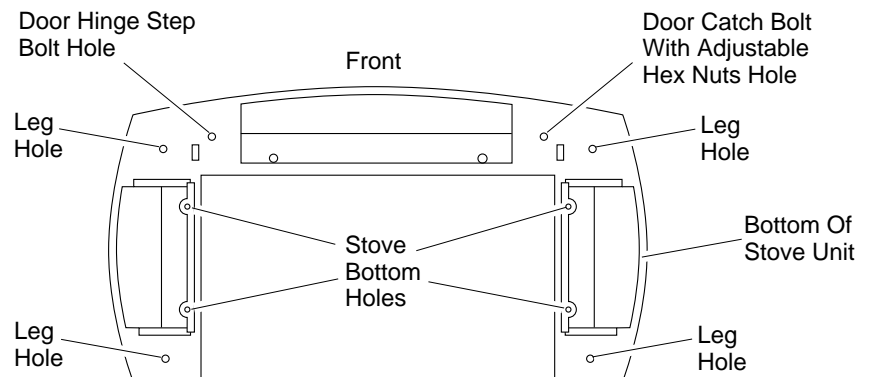
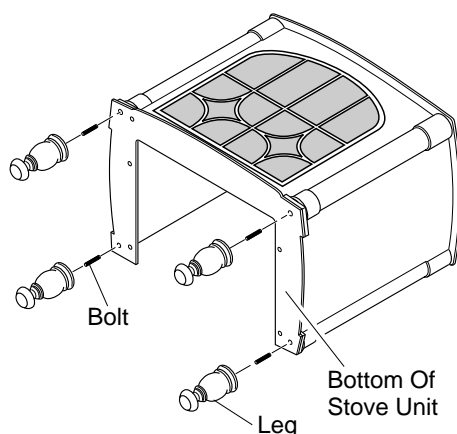

Figure 8 - Locating Threaded Holes for Stove Bottom, Legs, and Door Attachment (Appearance May Vary Depending on Model)
Figure 9 - Attaching Stove Legs
- Fasten each leg to stove with four (4) bolts. Use a flat screw driver to tighten bolt to leg. Thread bolt in tapped holes on stove body (see Figure 8 and Figure 9, page 9).
9. Fasten stove bottom to stove with four (4) M6 x 1 - 25mm bolts. Use a flat washer and lock washer with each bolt. Tighten bolts into threaded holes on stove body (see Figure 8, page 8 and 10). Use an adjustable wrench or a 10mm socket.
11. Install door catch bolt (M8 x 1.25-55mm with two M8 hex nuts) into threaded hole on stove body (see Figure 8, page 8). Use an adjustable wrench or a 12mm socket. The catch bolt has two hex nuts attached to it (see Figure 12). The top nut is a bolt stop and the bottom nut is for door leveling adjustment.
15. Fasten back panel to stove with six (6) M6 x 1 - 20mm bolts and washers. Make sure product identification label is located on the outside in lower left-hand corner.